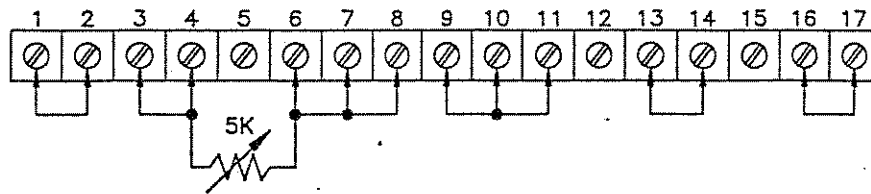

Figure 3. Remote programming by External Resistance, Voltage Mode
3.3.4 REMOTE PROGRAMMING by EXTERNAL CURRENT (Figures 3 & 4)